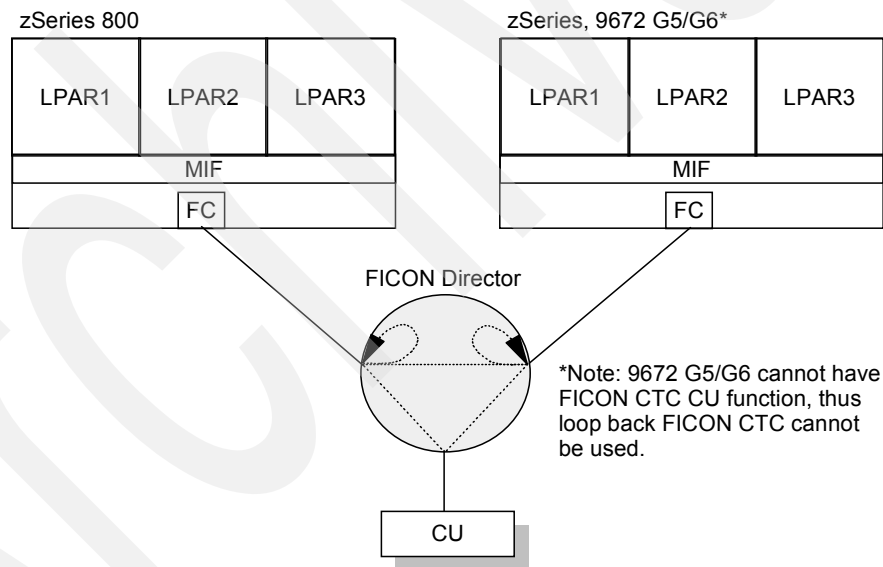

Figure 4-2 FICON CTC links in director
- ▶ Any two LPARs, in the same system, can establish a FICON CTC connection using only a single FICON channel. This single channel *must* be connected to a FICON director. This is illustrated in the bottom of Figure 4-2 on page 55.
In the upper part of Figure 4-2, two FICON native (FC) channels in z800 are shared among LPAR1, LPAR2, and LPAR3, and communicate with LPAR4, LPAR5, and LPAR6 on another processor. Also, for communication between any two of the LPARs in the z800, both FICON channels are used to form a CTC loop back in the FICON Director. The same FICON channels can also communicate with I/O devices (CUs) attached to the Director.
The bottom half of Figure 4-2 illustrates that a single FICON channel can be looped in a Director, to form a CTC link between two LPARs in the same system. The same channel can also communicate with other systems or control units.